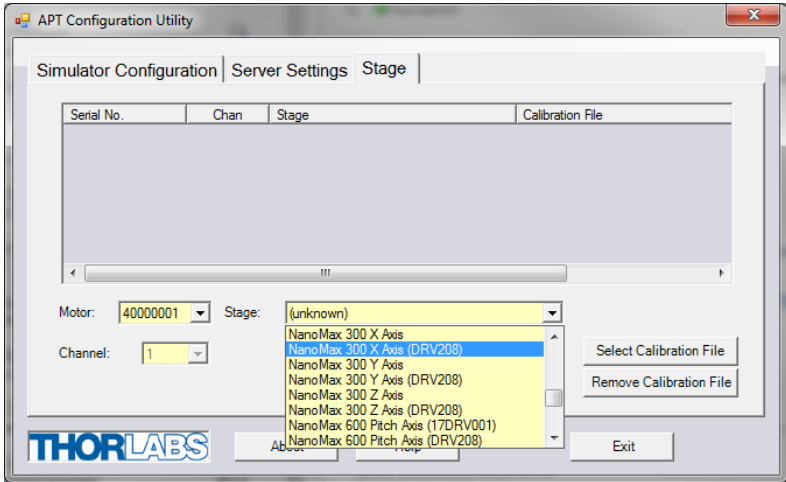

Fig. 3.3 APT Configuration Utility - Stage Tab
- 5) In the 'Stage' field, select your actuator type from the list displayed (e.g. NanoMax 300 X Axis (DRV208)), as shown in Fig. 3.3.